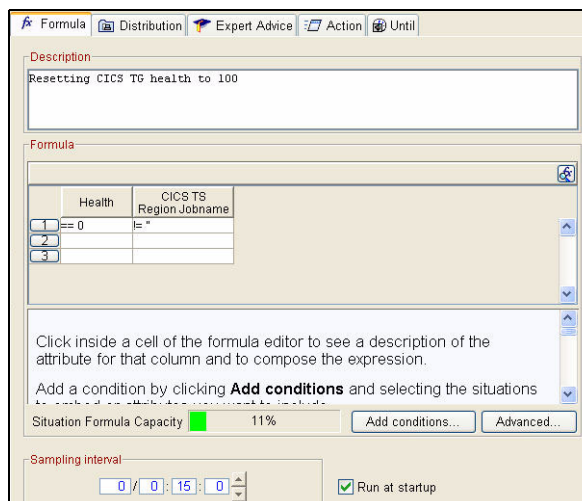

Figure 7-57 Conditions values assignment
4. The next step is to assign values to both conditions. In our scenario, we need to reset the CICS TG health when it is 0 and its associated CICS region is available again. Therefore, we have to set the following values (Figure 7-57):